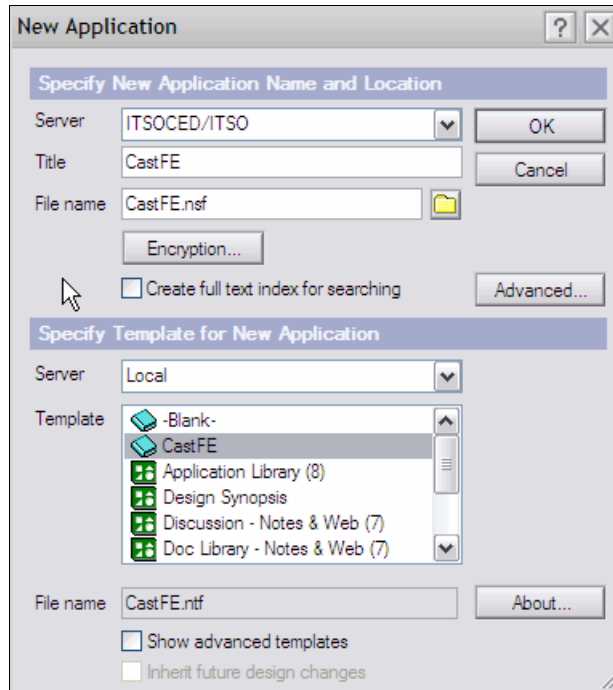

Figure 12-12 Creating a new Notes database from a template
2. In your IBM Lotus Notes® workspace, select **File** → **Application** → **New**, as shown in Figure 12-12 on page 475. On the window: